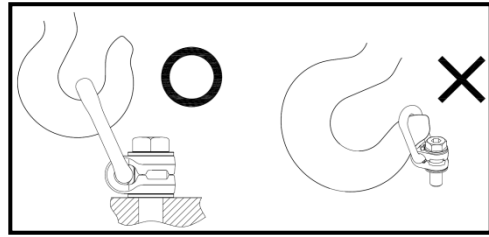

Fig. 1
- Attach lifting device ensuring free fit to Lifting Point bail (lifting ring) (Fig. 1).